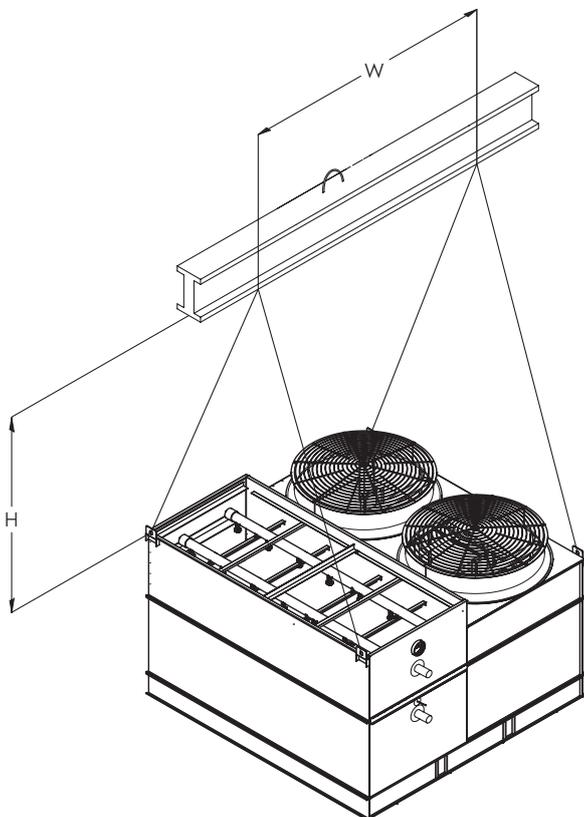

Figure 7 – S Model Coil / Fan Section 9' (2.7 m), 12' (3.6 m) and 18' (5.5 m) Long
Four lifting ears are provided in the upper corners of the coil / fan sections for lifting. Sections 24' (7.3 m) or longer will have two additional lifting ears in the middle of the section (See Figures 7 and 8).
**CAUTION: USE ALL LIFTING EARS PROVIDED ON THE SECTION. A SPREADER BEAM MUST BE USED FOR LIFTING THE TOP SECTION(S) AS SHOWN IN FIGURES 7 and 8!**